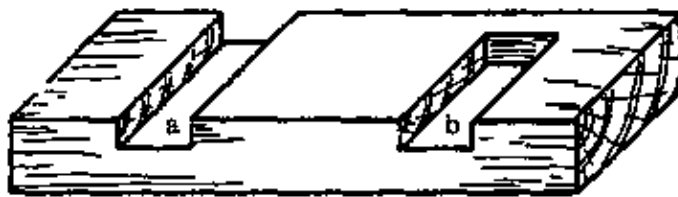

Fig. 4
– TRENCH: This is a recess cut along the grain. A trench can also be either through (Fig. 4, a) or stopped (Fig. 4, b).